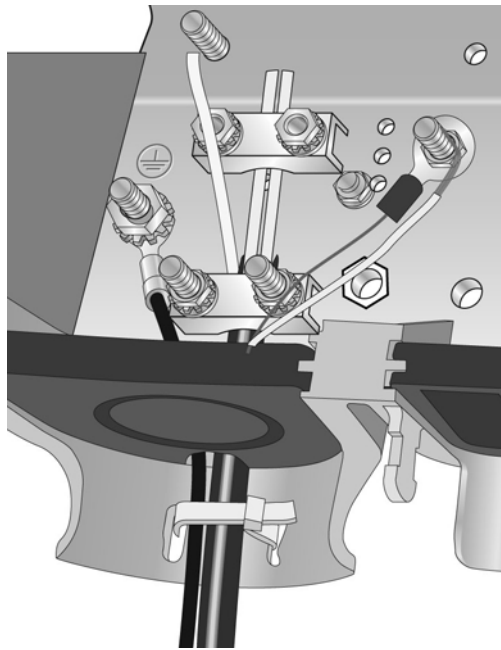

Figure 13. Securing the Tracer Wire and Aramid Yarn
4. Re-attach the nut removed in Step 2 and tighten on the ring lug, as shown in Figure 13.